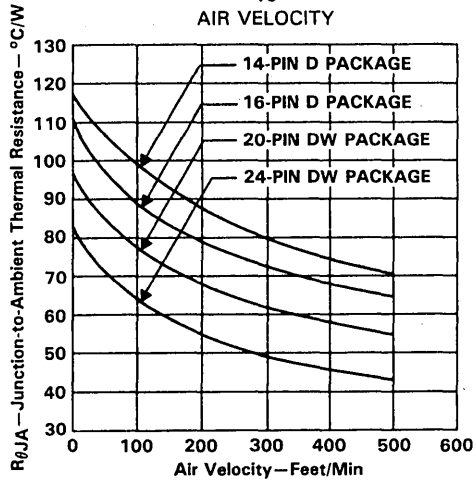

FIGURE 1
In digital system design, consideration must be given to thermal management of components. The small size of the "small outline" package makes this even more critical. Figure 1 shows the thermal resistance of these packages for various rates of air flow.
The thermal resistances in Figure 1 can be used to approximate typical and maximum virtual junction temperatures for the Advanced Low-Power Schottky (ALS) and Advanced Schottky (AS) families. In general, junction temperature for any device can be calculated using Equation 1.